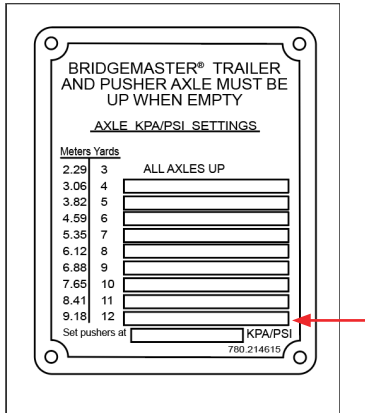

Figure 6
10. Locate the Bridgemaster pressure placard (the placard is posted on the water tank saddle if the truck has cross mount water tank configuration or otherwise it is next to the Bridgemaster pressure knob) and refer to the highest pressure on the placard. On the placard, the highest pressure will be the lowest row with a payload designation. In Figure 6, the example shows the lowest row is 9.18 meters or 12 yards. Note that if a pusher axle is not installed, then the “Set pushers at” row as shown on example Figure 6, will not be present on the placard.